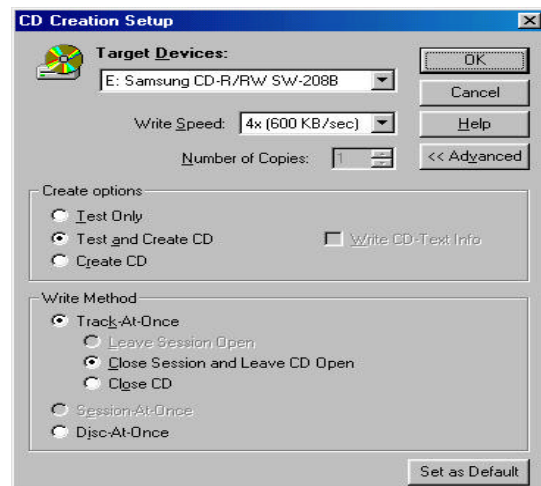

Figure 6. CD creation setup
- (e) Once all the files are added in Lauserst that we want to add in our CD, click Create CD. The CD Creation Setup box appears. (Fig. 6)
When we click 'Create CD' (Fig. 6), one of the following options can be chosen for creating a CD: